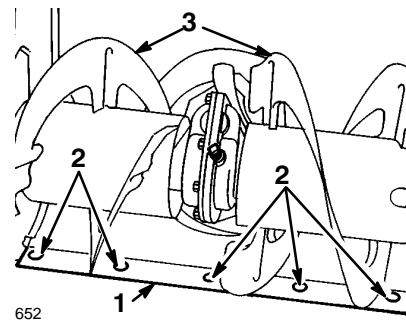

Figure 29
7. To adjust the scraper blade, loosen the five screws (Fig. 29), level the blade, and tighten the five screws.